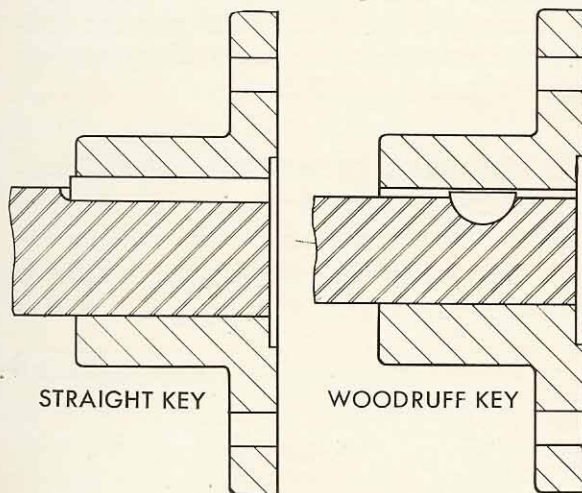

FIGURE 8-22
31. KEYS AND KEYWAYS: Set screws are not strong enough to hold heavy wheels or gears from turning on their shafts and keys are used for heavy duty. A key is a bar of steel that fits in a slot on the shaft and also in a slot in the hub of the wheel or gear. The hub cannot turn on the shaft without shearing the key. A key may be straight or semicircular (of Woodruff type). Both types are shown in Figure 8-22.